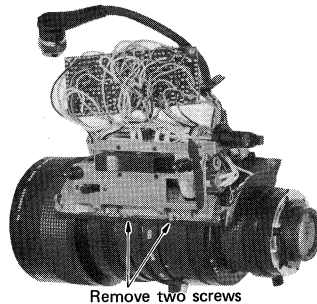
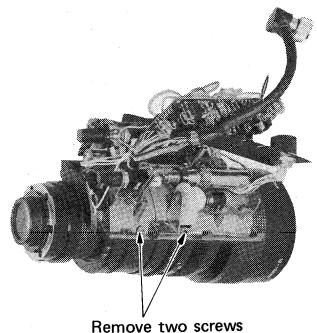

Fig. 17
Fig. 18
- Remove four screws which hold the grip and remove the grip from the camera lens, if necessary. (Fig. 17, Fig. 18)